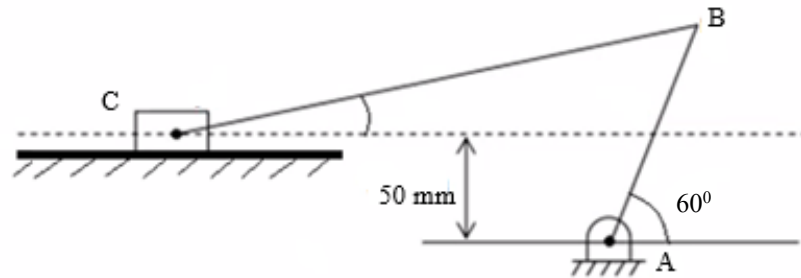

Figure3(b) / Rajah 3(b)
- (b) Consider the slider crank mechanism given in Figure 3(b). Let  $AB = 200$  mm,  $BC = 520$  mm and offset distance = 50 mm. The crank  $AB$  rotates counter clockwise at a constant velocity of 2000 rpm.